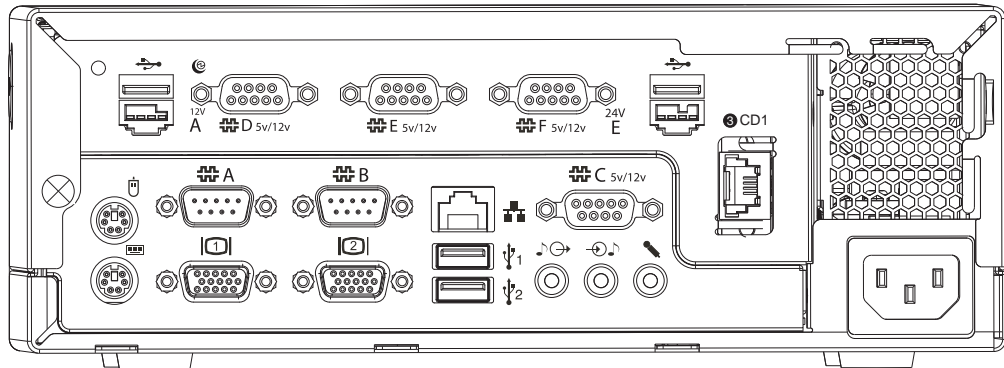
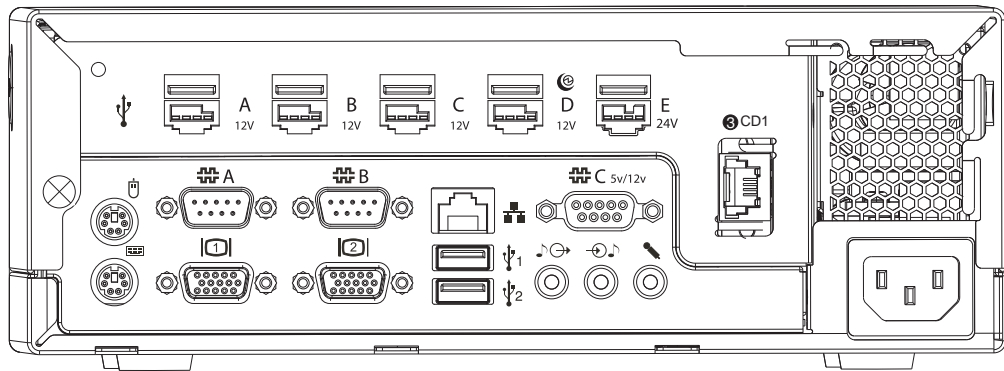

Figure 3. Rear view of the 4810/4910 model x4x (RS232)
Figure 4. Rear view of the 4810/4910 model x4x (USB)
Figure 3 and Figure 4 show examples of the rear view of the 4810/4910 model x4x.
3. If a security screw is present, remove it using the appropriate tool (to be provided by the customer). Refer to Figure 4 on page 6 for the location of the optional security screw and to Table 6 on page 6 for more information about the security screw.